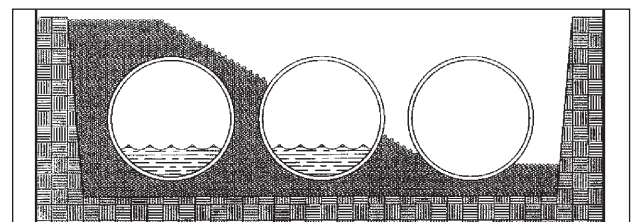

FIGURE 17-2
17.3.1. If the preferred method outlined above is not practical, an alternate method (*FIGURE 17-2*) is the following: